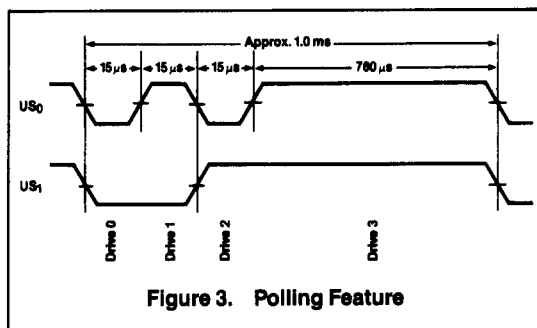

Figure 3. Polling Feature
After reset has been sent to the FDC72C65/FDC72C66, the unit select lines US_0 and US_1 will automatically go into a polling mode. In between commands (and between step pulses in the Seek command) the FDC72C65/FDC72C66 polls all four FDDs looking for a change in the ready line from any of the drives. If the ready line changes state (usually due to a door opening or closing), then the FDC72C65/FDC72C66 will generate an interrupt. When status register 0 (STO) is read (after Sense Interrupt Status is issued), not ready (NR) will be indicated. The polling of the ready line by the FDC72C65/FDC72C66 occurs continuously between commands, thus notifying the processor which drives are on or off line. Each drive is polled every 1.024 ms except during the Read/Write commands. When used with a 4 MHz clock for interfacing to minifloppies, the polling rate is 2.048 ms. See figure 3.